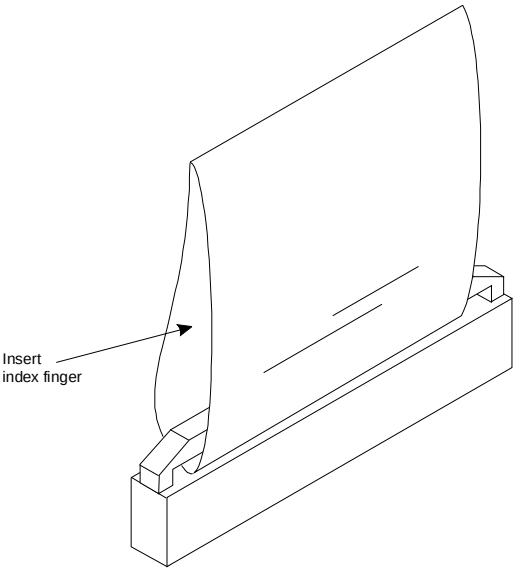

Figure B-7. SP/CMP Connector Loop
1. Insert an index finger into the plastic loop provided with each connector on the CMP card. (See Figure B-7).
3. Insert an index finger into the plastic loop (Figure B-7) provided with the SP connector and hold the card steady with your free hand. Pull with uniform force across the width of the loop to remove the connector from the SP card and gently work the connector loose.